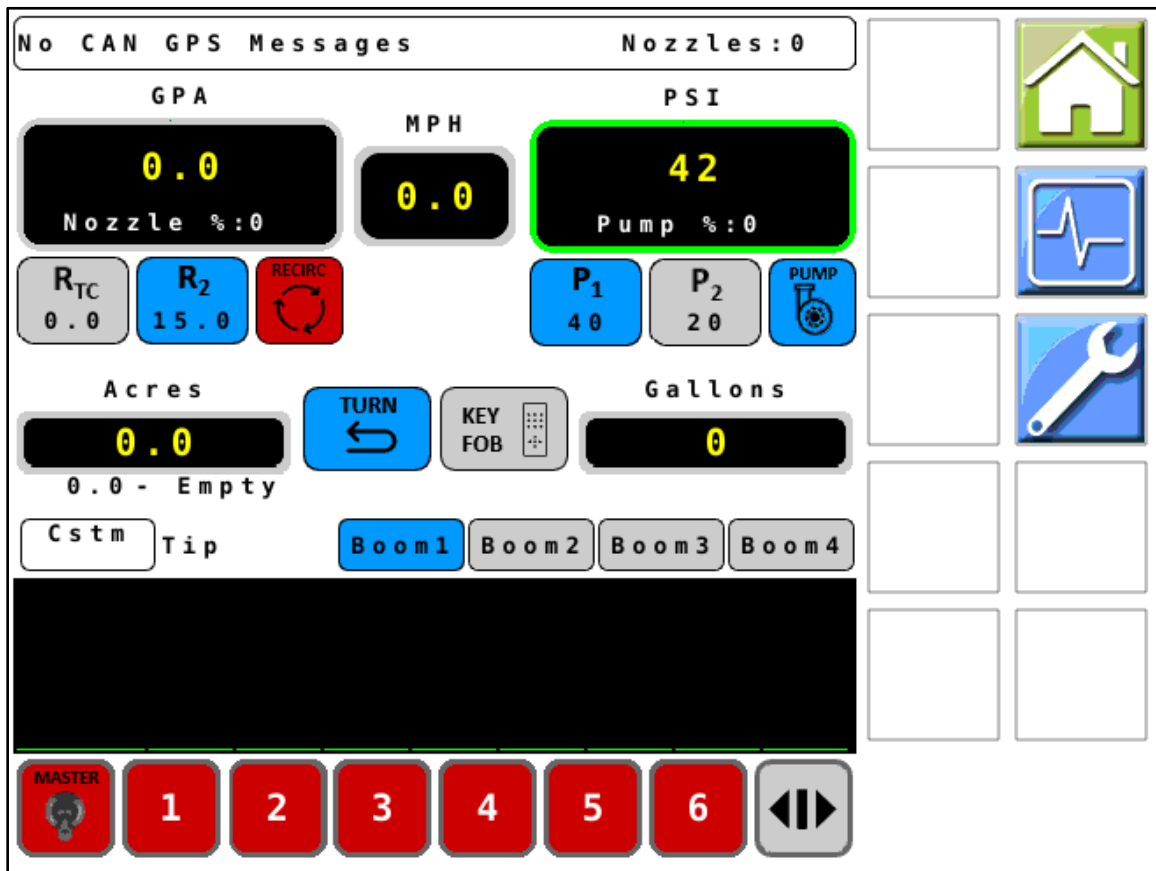

Figure 2 — PinPoint™ III Home Screen
- Figure 2: Basic running settings and information are displayed on the PinPoint™ III home screen. The boom configuration can be selected from the saved configurations at the bottom of the screen. To edit these configurations and set up other features of the PinPoint™ III software, tap the **Settings** icon  at the right side of the screen.